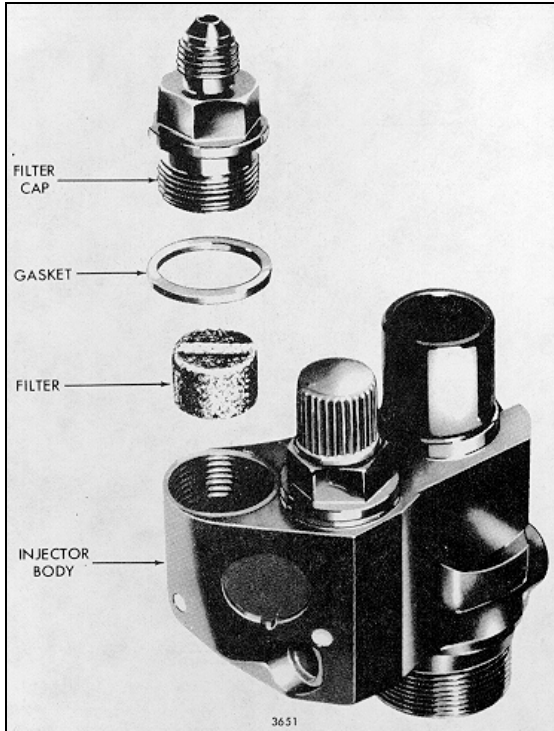

Fig. 35- Details of Injector Filters and Caps and Their Relative Location
1. Insert a new filter, dimple end down, slotted end up, in each of the fuel cavities in the top of the injector body (Fig. 35).